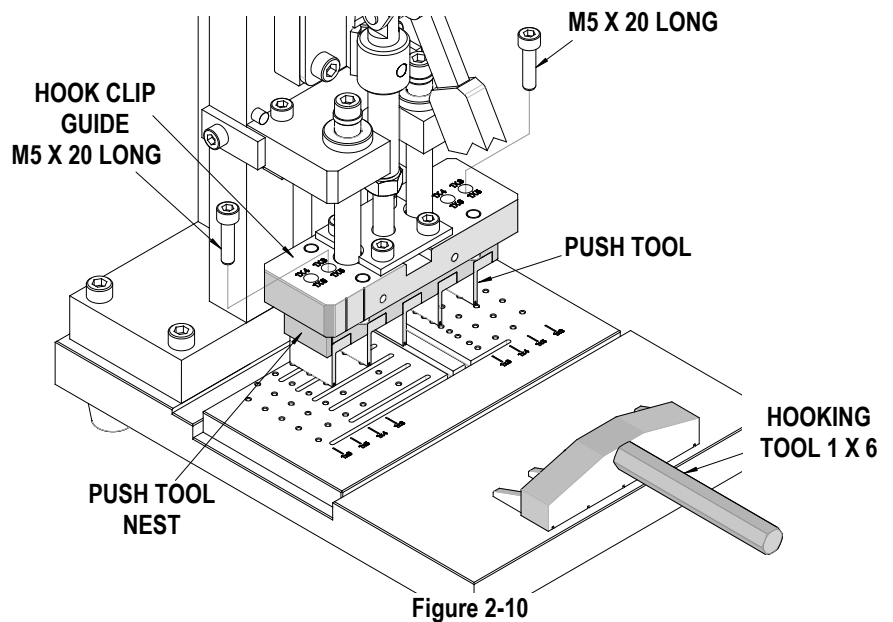

Figure 2-10
2. For the 1 X 6 assembly make sure that all five (5) push tools are properly installed and the Push Tool Nest that is marked "FRONT" and is facing the operator when assembling the tool nest to the guide. See Figure 2-10.